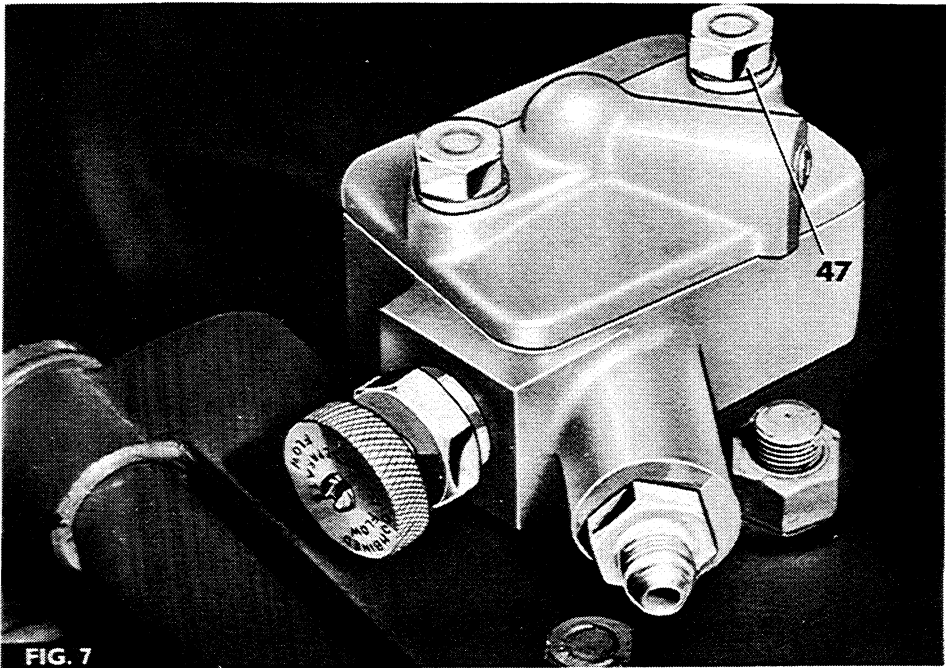

FIG. 7
3. Fig. 7. Remove the two bolts (47) and spring washers securing the combining valve and transfer cap to the lift cover.